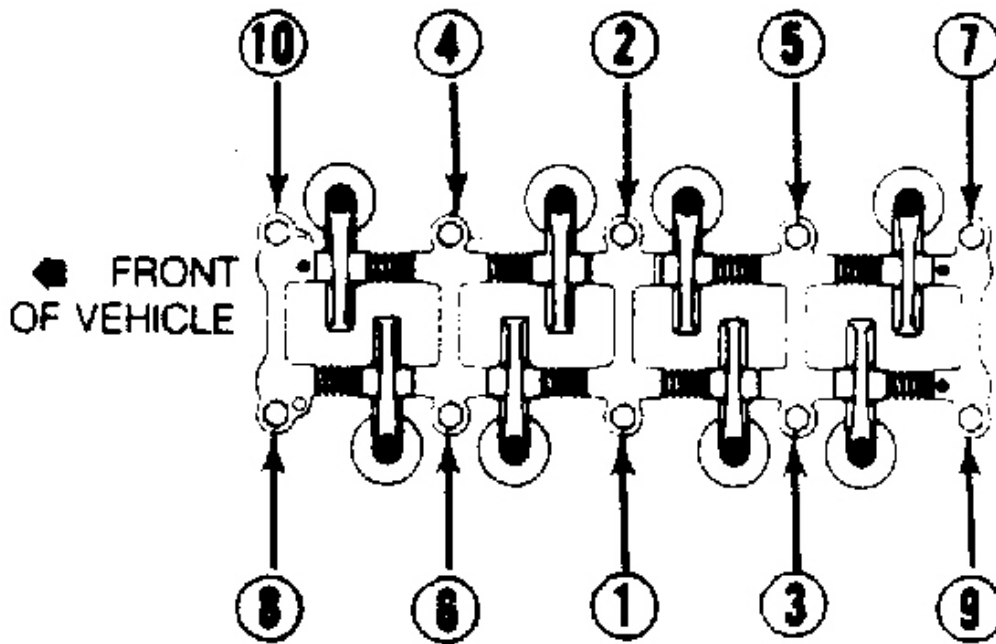

Fig. 1: Cylinder Head/Rocker Arm Bolt Tightening Sequence
6. Remove chain cover bolt in front of camshaft sprocket. Remove cylinder head bolts in reverse of tightening sequence. See **Fig. 1**.